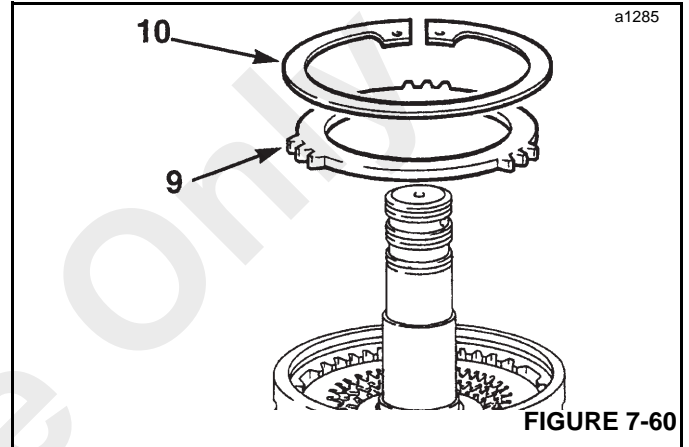

FIGURE 7-60
9. On earlier clutch housing, install the pressure (end) plate (9, Figure 7-60). Make sure that the prongs on the pressure plates DO NOT locate in the larger grooves in the hubs (the ones with drilled holes).
10. Install the clutch friction/counter plates retaining ring (10).